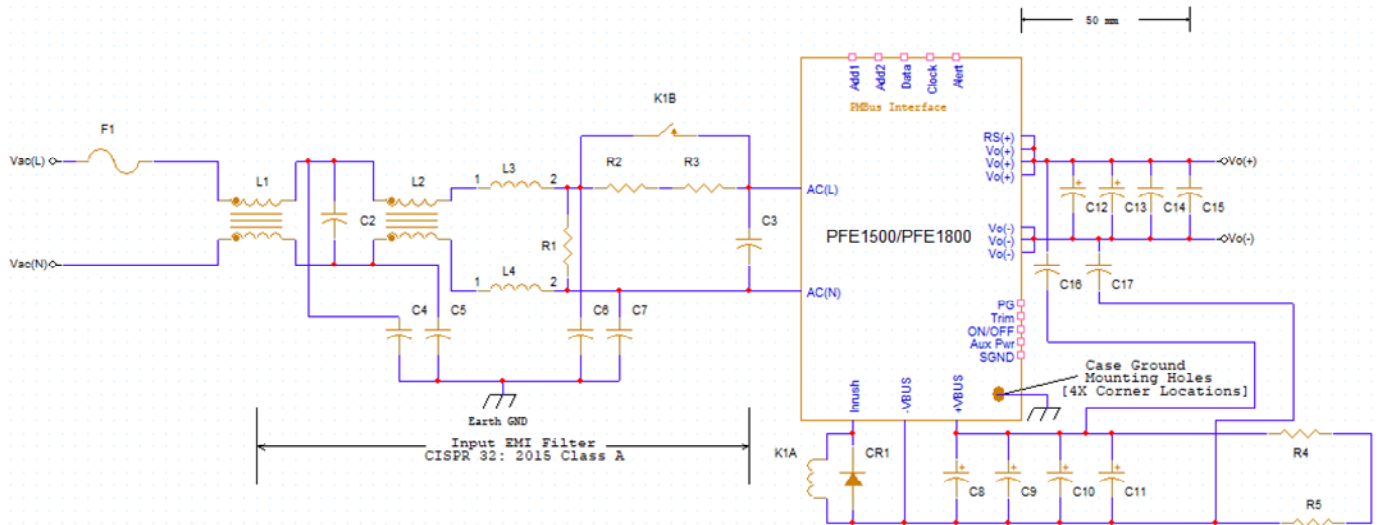

Fig. 7-1 Basic Connection
For proper operation, the PFE1500/1800 series module must be connected with the external components shown in Figure 7-1. Pay attention to the wiring details. If the PFE module is wired incorrectly, the power module may be damaged.
Connect bleeder resistors, R1, across the AC input terminals and R4 and R5 in series across the bulk capacitors C8 - C11 as shown in Fig. 7-1.
Y-capacitors cross the dc-dc converter isolation boundary and are used to reduce common mode noise. These capacitors should be connected between the points indicated in figure 7-1 with low inductance traces that are as short as possible. Capacitors with a high voltage rating are typically required for safety isolation withstanding purposes. High test voltages are often applied across these capacitors during production hipot testing.
3. Bleeder resistors, R4 & R5 (470 kΩ / 2 W), must be connected across C8, C9, C10 or C11 to discharge the bulk capacitor voltage to a safe level after powering off the PFE module. Refer to Figure 7-1.
- (1) Higher external output capacitance values, beyond the minimum can help improve magnitude of the transient response due to changes in line voltage and/or load current. Contact TDK-Lambda for technical support if the application requires capacitance above 10,000 μ F.
- (2) Rubycon ZLJ series capacitors were used during the design evaluation testing process.
- (3) Use low-impedance electrolytic capacitors with excellent temperature characteristics rated at least to 105 °C.
- (4) When using the PFE power modules below room ambient temperature, the output ripple voltage might be affected by ESR characteristics of the bulk capacitors. Performance characteristics over temperature should be confirmed by evaluation in the end application.
- (5) Take note of the maximum allowable ripple current of the electrolytic capacitors being used. Verify the actual ripple current and make sure that allowable maximum ripple current of the external capacitor is not being exceeded.
- (6) If large output load steps are performed on the PFE module, it is recommended that the output capacitance be increased, but the value should not exceed the maximum capacitance value listed in the product data sheet.
Wire wound, thermal fused inrush resistors should be inserted between the line filter and the input terminal, AC(L) as shown in Fig. 7-1, to limit the inrush current to a pre-determined level. Proper inrush control is required during turn-on to avoid the possibility of the external line fuse being blown, the input circuit breaker from being tripped, the bulk capacitors and/or PFE Series module internal parts from being damaged, and to prevent oscillation between the input inductor and the bulk capacitors.